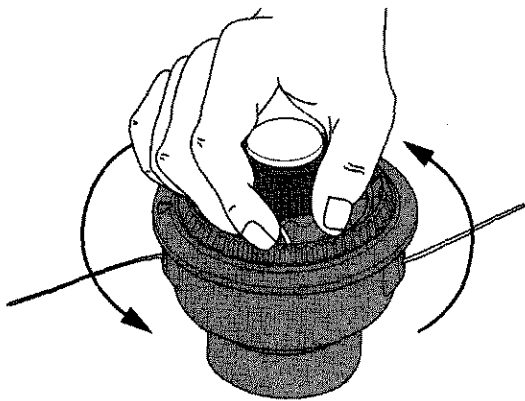

Fig. 22
- Hold the outer spool. Wind the inner reel counterclockwise until approximately four (4) inches (102 mm) of line remain (Fig. 22).